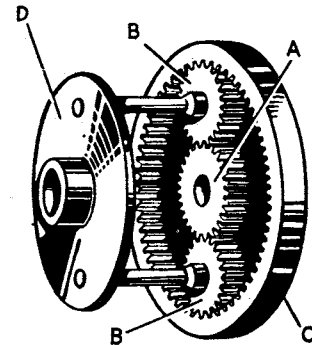
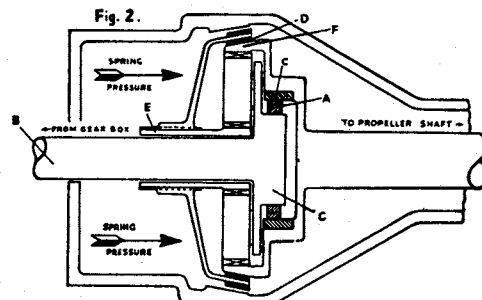

Fig. 1 Principle of an Epicyclic Gear.
Fig. 2 Operation in Direct Drive.
### THE PRINCIPLE (Fig. 1).
In addition to an epicyclic gear train similar to the one depicted in Fig. 1, there is also a hydraulic pump, a hydraulic accumulator or pressure storage chamber, a roller clutch and a sliding cone clutch. When in direct top gear (see Fig. 2) the overdrive is inoperative. The
drive from the gearbox to the propeller shaft is taken through the rollers (A) from the gearbox main driving shaft (B) to the outer member of the uni-directional clutch (C), and so direct drive is transmitted. The roller clutch drives in one direction only, and therefore if the car were to over-run the engine, the rollers would be pushed down the inclined surfaces away from the annulus or output member and the drive broken, leaving the car without engine resistance to assist braking. This problem is overcome by means of a cone clutch (D). This clutch slides on the sun wheel splined extension (E) (Fig. 2) and it is pushed by springs to engage with the corresponding cone of the annulus (F). This, therefore, locks the sun wheel to the annulus. Between the annulus and the sun wheel are the planet wheels which are carried by the planet carrier (G) which is mounted on the driving shaft (B). The planet wheels are therefore also locked and resistance to over-run is provided by the engine through the gearbox and main drive shaft to the planet wheels.